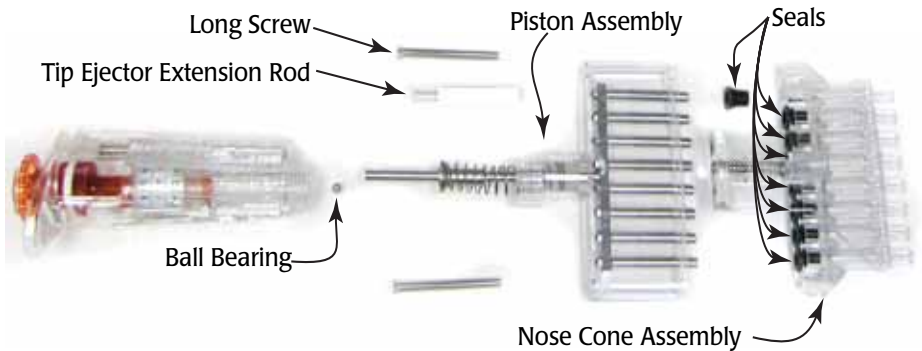

Fig. 8—Crystal-200M8 Multipet dis-assembled
1. Remove the two long screws located on the sides of the main body (**Fig. 8**).